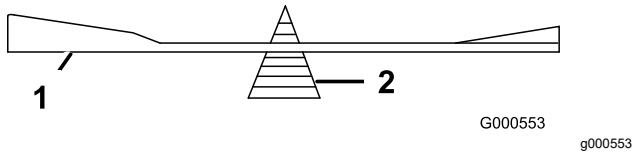

**Figure 75**
1. Use a file to sharpen the cutting edge at both ends of the blade (Figure 75).
**Note:** If the blade is not balanced, file some metal off the end of the sail area only (Figure 75).